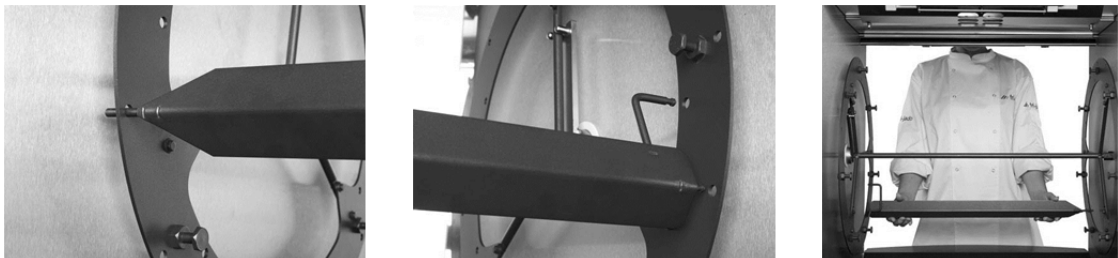

Figure 14
- Place the skewer into the small outside hole on the rotor end plate on your left (as you face the oven). The back of the V-shape spit should be pointing towards you (see Figure 14).